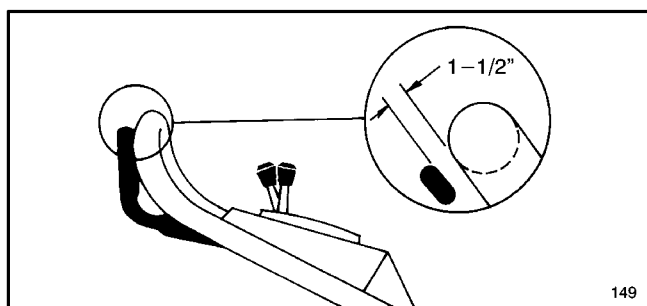

Figure 22
4. Lift control bar until some resistance is felt. Control bar should be 1-1/2" from handle when properly adjusted (Fig. 22).